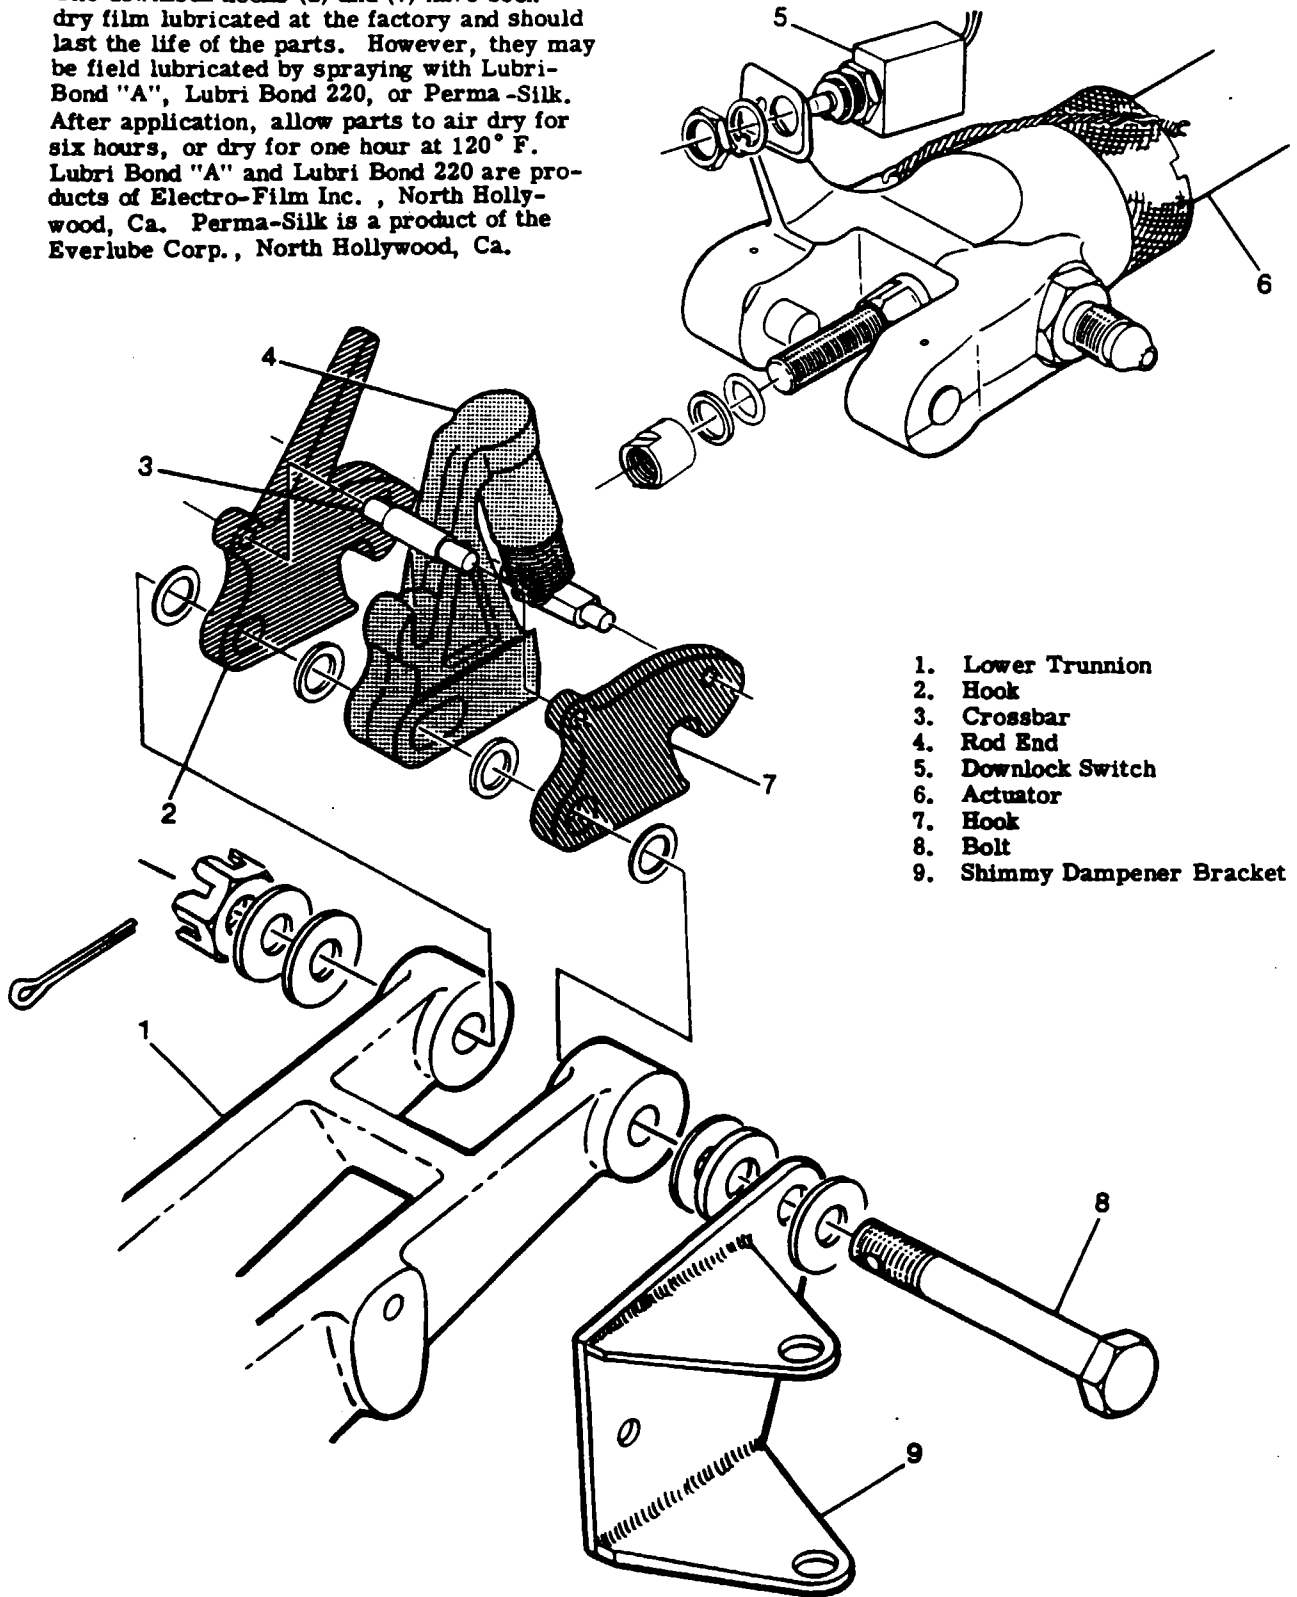

Figure 5-22. Nose Gear Downlock Mechanism
(Refer to figure 5-22.)
**5-103. REMOVAL AND INSTALLATION OF NOSE GEAR DOWNLOCK MECHANISM.** (Refer to figure 5-22.) Refer to "Removal of Nose Gear Actuator" paragraph of this Section.